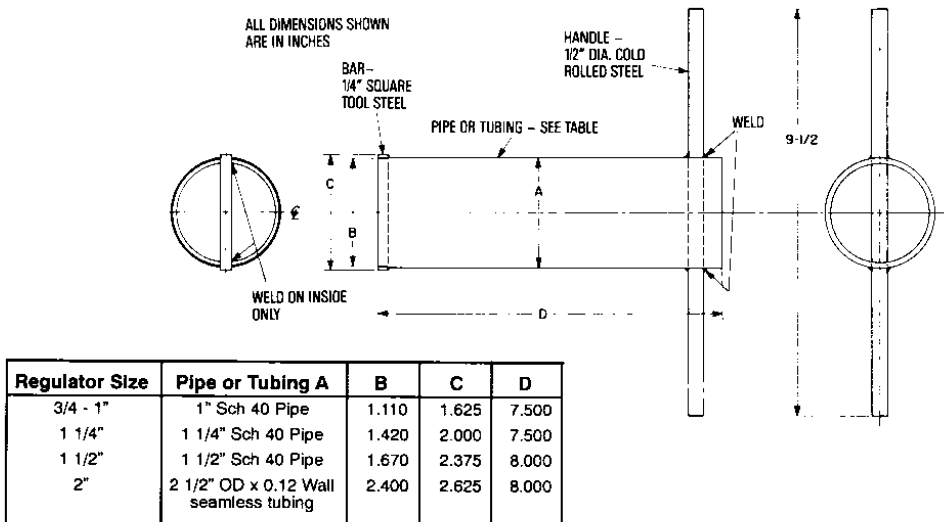

FIGURE 6 - SEAT CAGE TOOL
- b) Press a new Seat (18) into the Plug Shaft (43).
- DR27 Inspect the Disc Seat (38). If it is worn so that it will not seat correctly with the Seat Cage (41), it must be replaced. To carry out the replacement:
- Insert a 3mm (1/8") diameter tool steel rod through the holes at the top of the Valve Plug Shaft (43). Using a spanner on Disc Retainer (37) turn the Retainer off the shaft (43).
- Lift the Disc Seat (38) and Seat Retainer (39) assembly off the shaft (43).
- Prise the Disc Seat (38) off the Seat Retainer (39). (There is no Seat Retainer fitted in a 3/4" and a 1" Regulator).
- Press a new Disc Seat (38) on to the Seat Retainer (39)
- Reassemble the Seat Retainer (39) and Disc Seat (38) assembly and the disc Retainer (37) back on to the Shaft (43)
- DR28 Thoroughly clean and inspect the seating and inner surfaces of the Seat Cage (41). If the Cage (41) has to be removed from the Valve Body (45), make up a tool as shown in Figure 6.
- Insert the tool into the slots on the top of the Cage (41) and unscrew the Cage from the Valve Body. If the Seating Surface around the top of the Cage is worn or damaged preventing the Disc Seat from seating correctly, or if the inner surfaces of the Cage are scored or damaged so that the Pistons (40) and (42) do not move up and down freely, then all worn and damaged parts must be replaced.
- DR29 Reassemble the Seat Cage (41) back into the Valve body. Use Jointing Compound - Boss White etc. on the Cage threads. Use the tool in Figure 6 (See step DR28) to tighten the Cage into place.